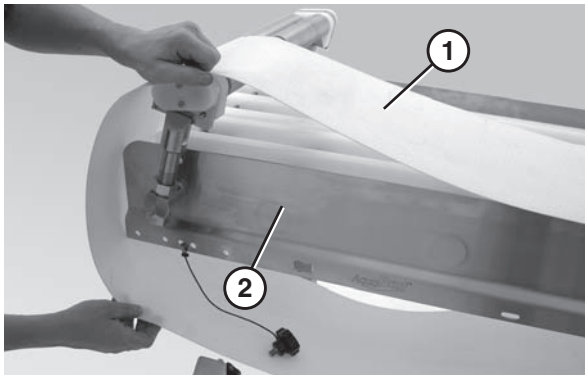

Figure 50
3. Slide the old belt (Figure 50, item 1) off the conveyor frame (Figure 50, item 2).